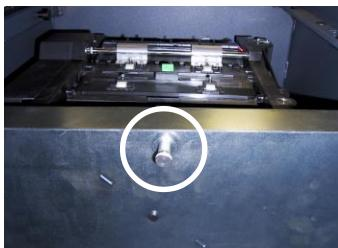

Figure 4-3. Pull release pin for swivel platform.
4. To gain access to the cassettes, rotate the mechanism mounting platform to the service position. To do this, locate the spring-loaded locking pin on the underside of the slide tray. This pin lets you lock the dispenser’s swivel mounting platform into half-turn access positions. (Figure 4-3)